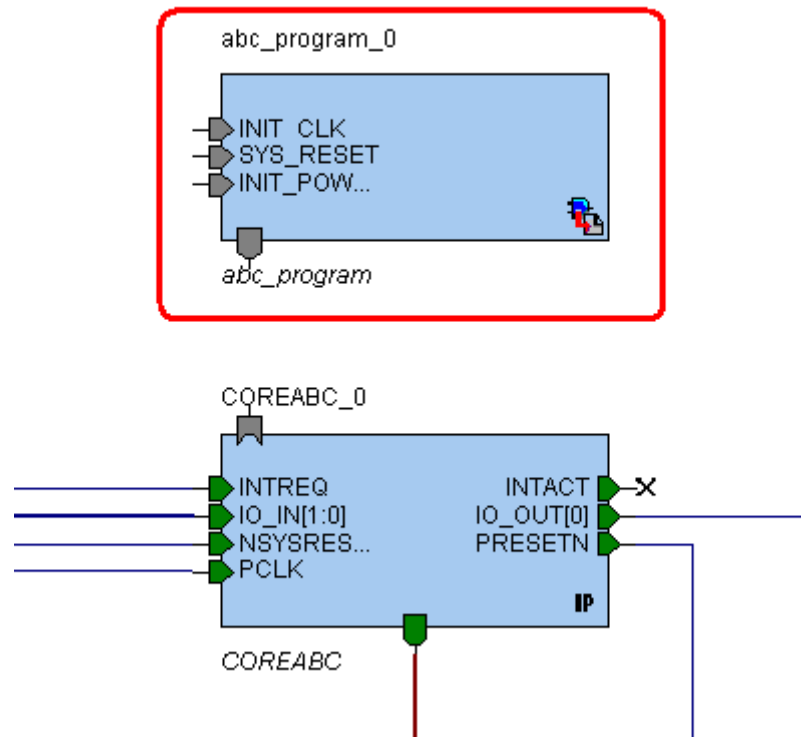

Figure 7-6 • Flash Memory System Builder Initialization Client
- Click **OK** and then **Generate**. Name the instance and click **OK** again. Back in SmartDesign, the Flash Memory System Builder initialization client instance should now appear as shown in Figure 7-6.